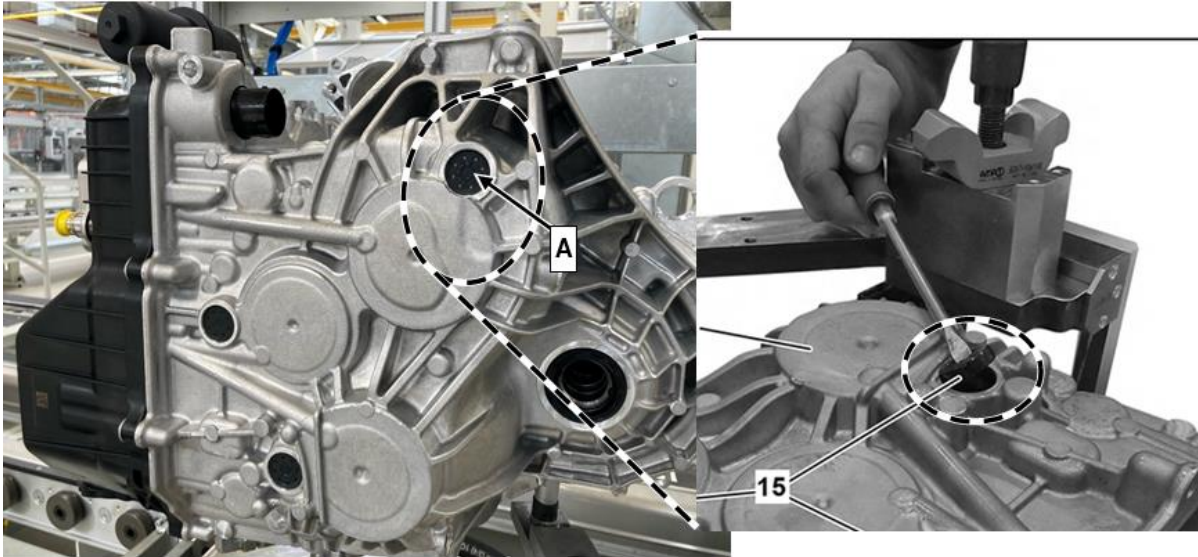

Figure 2
2. Remove bearing cap (A, Figure 2) from transmission using a suitable tool.